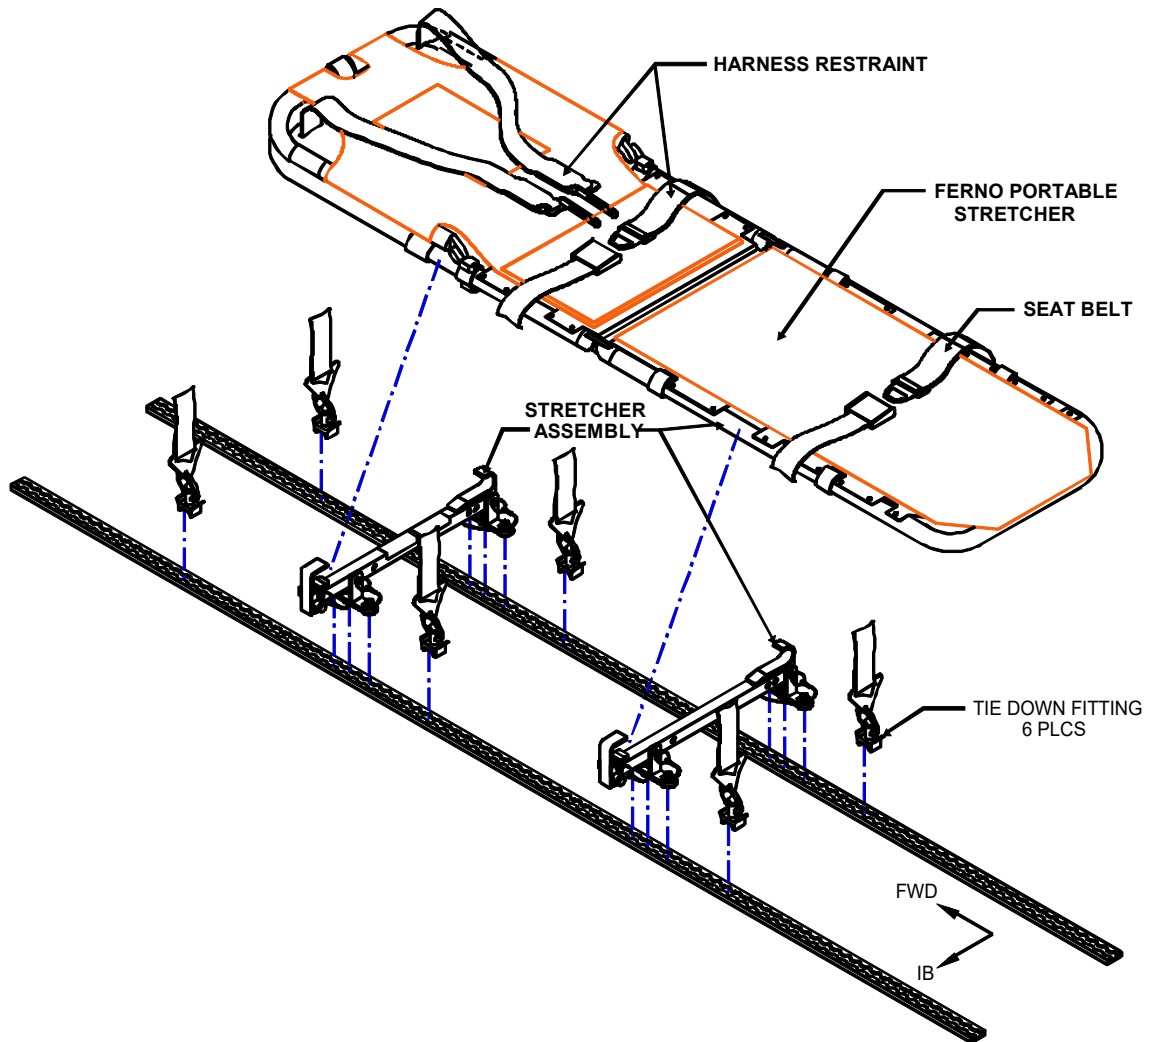

Figure 1.0A
- a. Locate and attached support assemblies on cabin seat track by lifting knurled nut for plunger and inserting foot studs into seat track. Move the support assembly forward or aft approximately .50" until plunger locks down into the cabin seat track. See Figures 1.0A & 1.0B
- b. Locate the tie down fittings in the cabin seat track and attach the restraints. See Figure 1.0A.
- b. Remove the tie down fittings and restraints from the cabin seat track. See Figure 1.0A.
knurled nut for plunger and moving the support assembly forward or aft approximately .50" until the foot bodies clear the cabin seat track. See Figures 1.0A & 1.0B